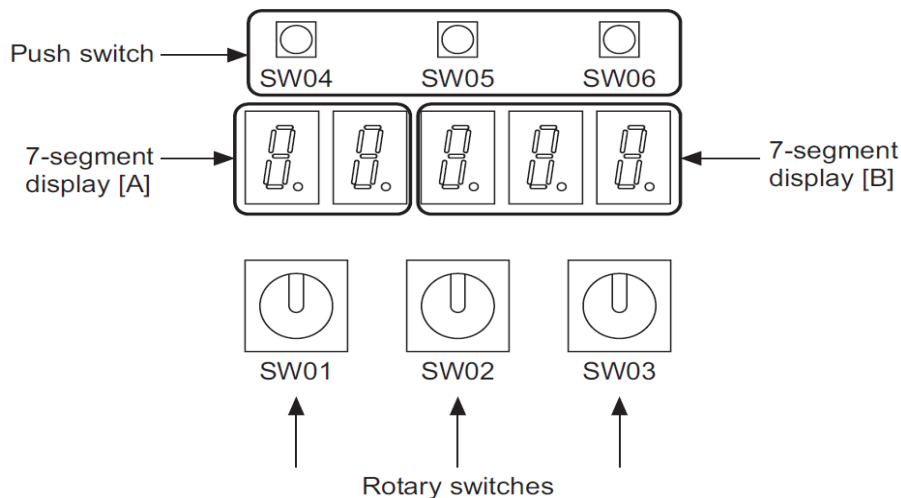

fig 21
Set the rotary switches, **SW01 = (9)**, **SW02 = (1)** and **SW03 = (1)** - (fig21)
Set the rotary switches, SW01 = **(9)**, SW02 = **(1)** and SW03 = **(1)** - (fig21)